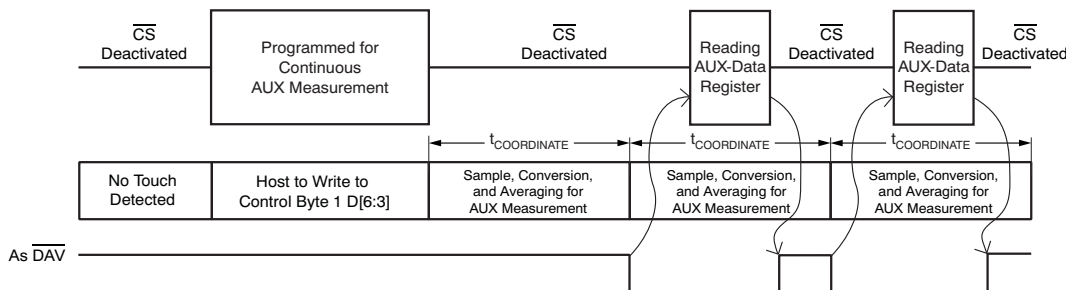

Figure 40. Non-Touch Screen, Continuous AUX Measurement
2. Continuous AUX Measurement shown in Figure 40 (converter function select bits C[3:0] = Control Byte 1 D[6:3] = 1000).